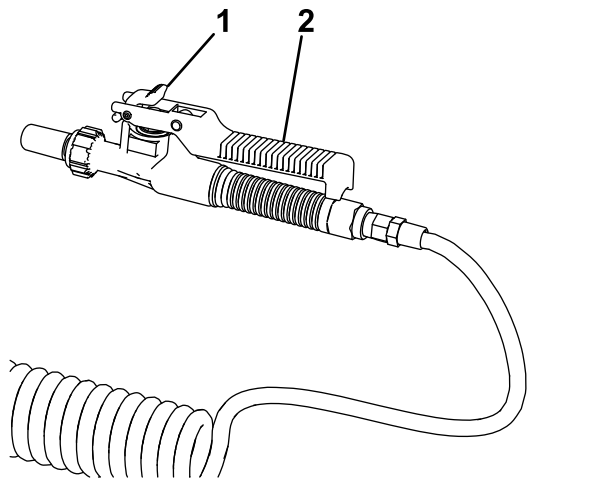

Figure 22
4. Squeeze the handle on the spray gun to begin spraying (Figure 22).